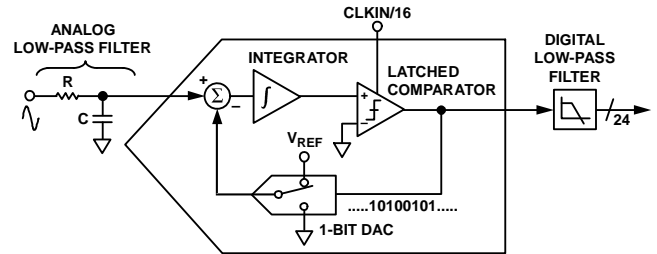
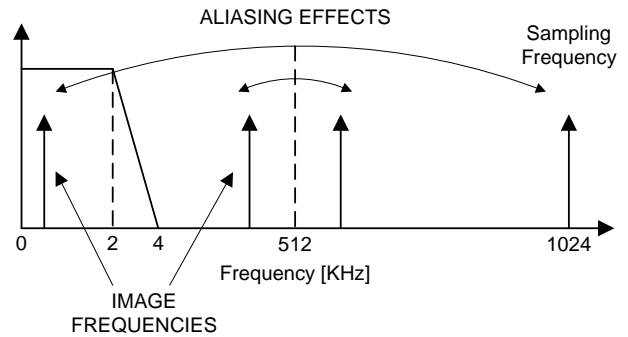

Figure 12. First-Order  $\Sigma$ - $\Delta$  ADC
Figure 14. Aliasing effects at ADE7858
For simplicity, the block diagram in Figure 12 shows a first-order  $\Sigma$ - $\Delta$  ADC. The converter is made up of the  $\Sigma$ - $\Delta$  modulator and the digital low-pass filter.
Figure 12 also shows an analog low-pass filter (RC) on the input to the ADC. This filter is placed outside the ADE7858 and its role is to prevent aliasing. Aliasing is an artifact of all sampled systems and is illustrated in Figure 14. Aliasing means that frequency components in the input signal to the ADC, which are higher than half the sampling rate of the ADC, appear in the sampled signal at a frequency below half the sampling rate. Frequency components (arrows shown in black) above half the sampling frequency (also known as the Nyquist frequency, i.e., 512 kHz) are imaged or folded back down below 512 kHz. This happens with all ADCs regardless of the architecture. In the example shown, only frequencies near the sampling frequency, i.e., 1.024MHz, move into the band of interest for metering, i.e., 40 Hz to 2 kHz. To attenuate the high frequency (near 1.024MHz) noise and prevent the distortion of the band of interest, a LPF (low-pass filter) has to be introduced. For conventional current sensors, it is recommended to use one RC filter with a corner frequency of 5 KHz in order for the